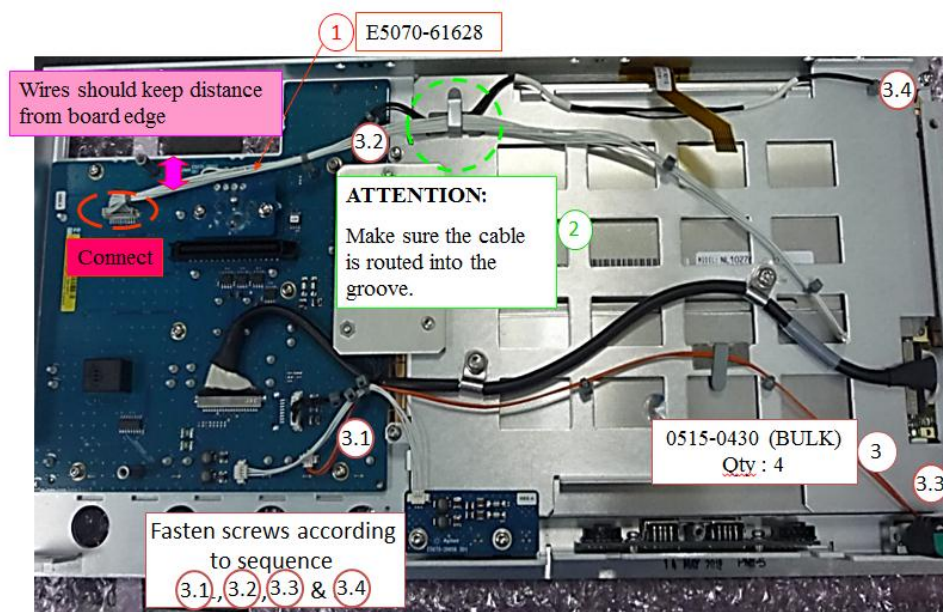

Figure 1-7
6. Install the LCD T/P Display Assembly onto the LCD Front Panel. Fasten the screws according to the following sequence. Connect all cable assemblies as shown in figure 1-7.